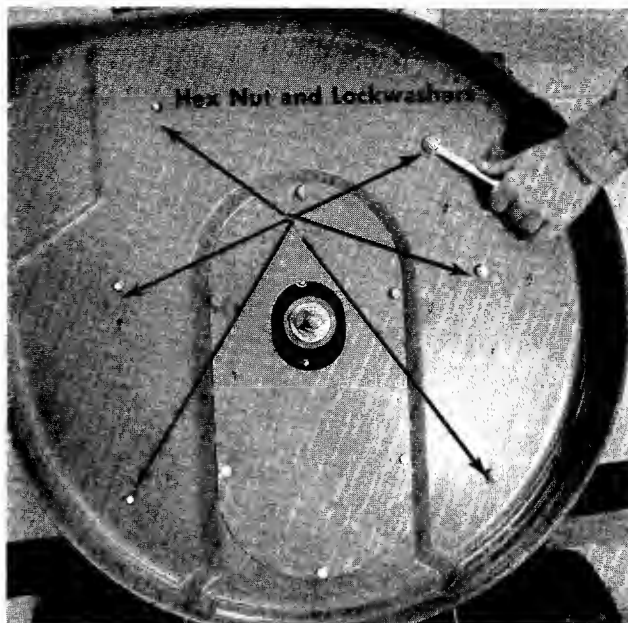

FIGURE 21. REMOVING THE DECK
Step 3. Take off the deck by removing the six hex nuts and lock washers as shown in figure 21.
- Step 3. Take off the deck by removing the six hex nuts and lock washers as shown in figure 21.